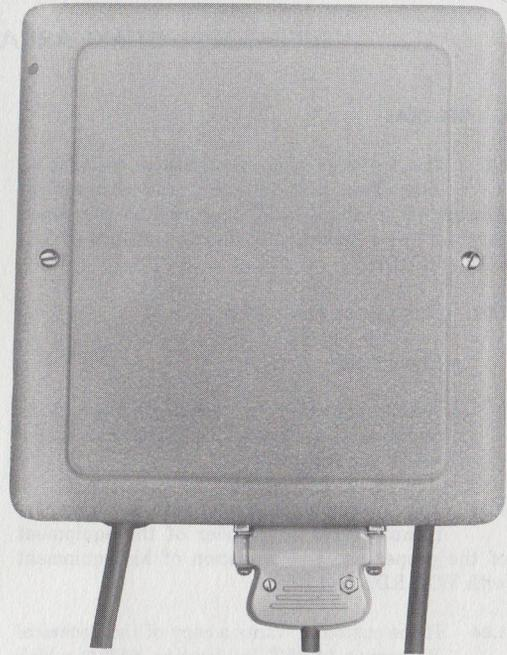

Fig. 1—KS-19522 Recorder Coupler
**2.01** The KS-19522, List 1 and List 21 or List 2 and List 22 recorder coupler (Fig. 1):
**3.04** A 25-pin connector (Fig. 1) is located on the base of the unit to connect the transmission path and control leads to the CPE. The mating ITT Cannon Electric or Cinch Plug No. DB-19604-432 with Hood No. DB-51226-1, or equivalent, is customer-provided and prewired to his equipment.